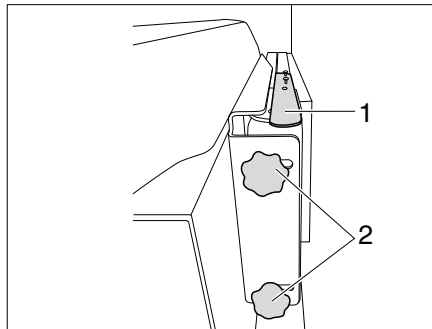

Fig. 137 Holder with jointed arm (variant 1)
- Press the lever (Fig. 137,1) downwards to release the flat screen from the latch. Release the lever.
- Undo the 2 knurled screws (Fig. 137,2) and swivel the flat screen into the desired position. Retighten the knurled screws (Fig. 137,2).